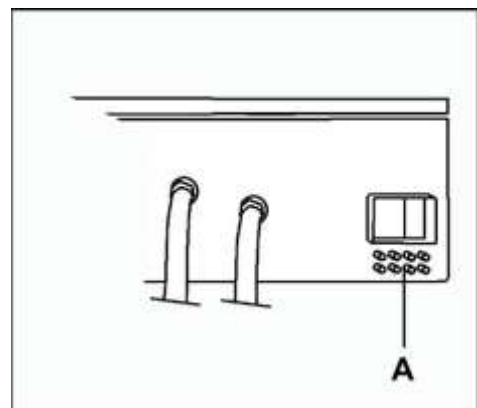

Fig. 3.15
- Connect the hoses to the nipples **A** on the manifold (Fig. 3.15).